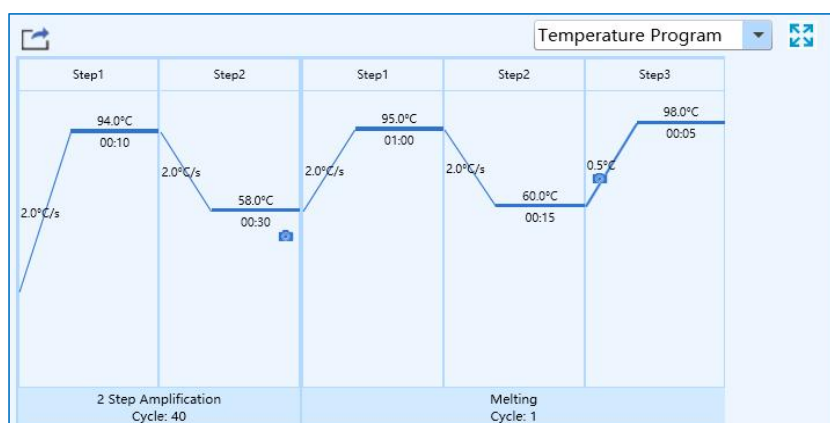

Figure D-7.2. Run Monitoring Interface - Temperature Program Function Module
- 2. **Temperature Program**: display the temperature program of the current running experiment, as shown in figure D-7.2